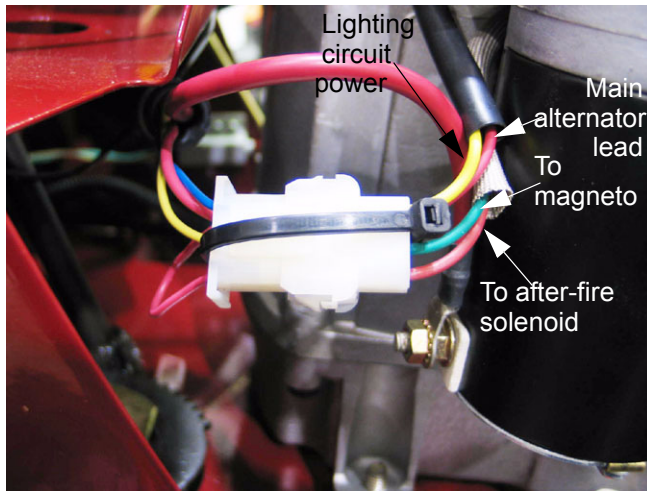

Figure 17.33
17.33. The engine harness connector on the White tractor has alternator and safety circuit components. See Figure 17.33.